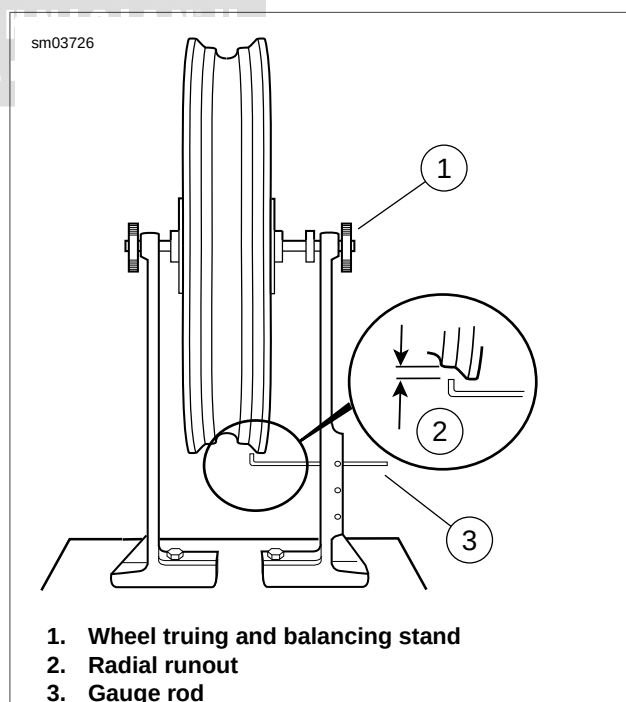

Figure 2-33. Checking Cast Wheel Radial Runout
1. See Figure 2-33. Install truing arbor in wheel hub and place wheel in the WHEEL TRUING AND BALANCING STAND (Part No. HD-99500-80).